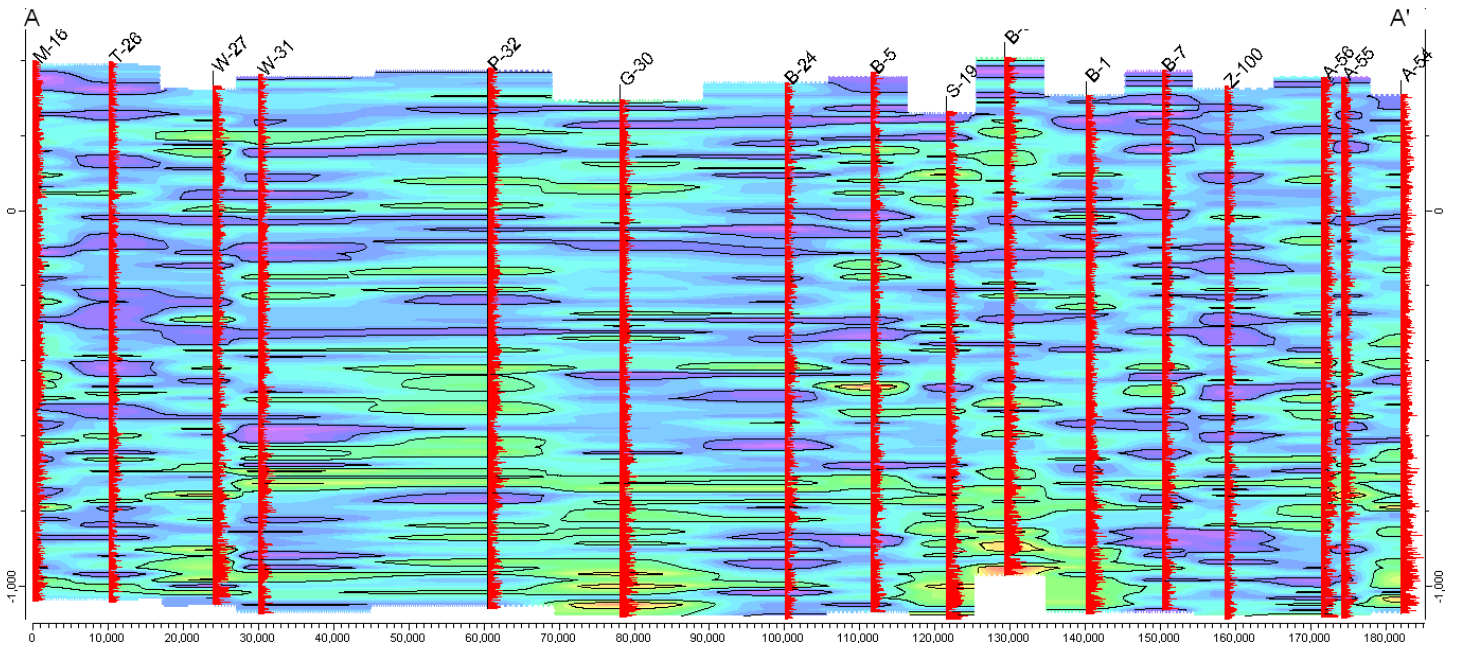

Figure 3
- Click on the Continue button and the section will be displayed (Figure 3).